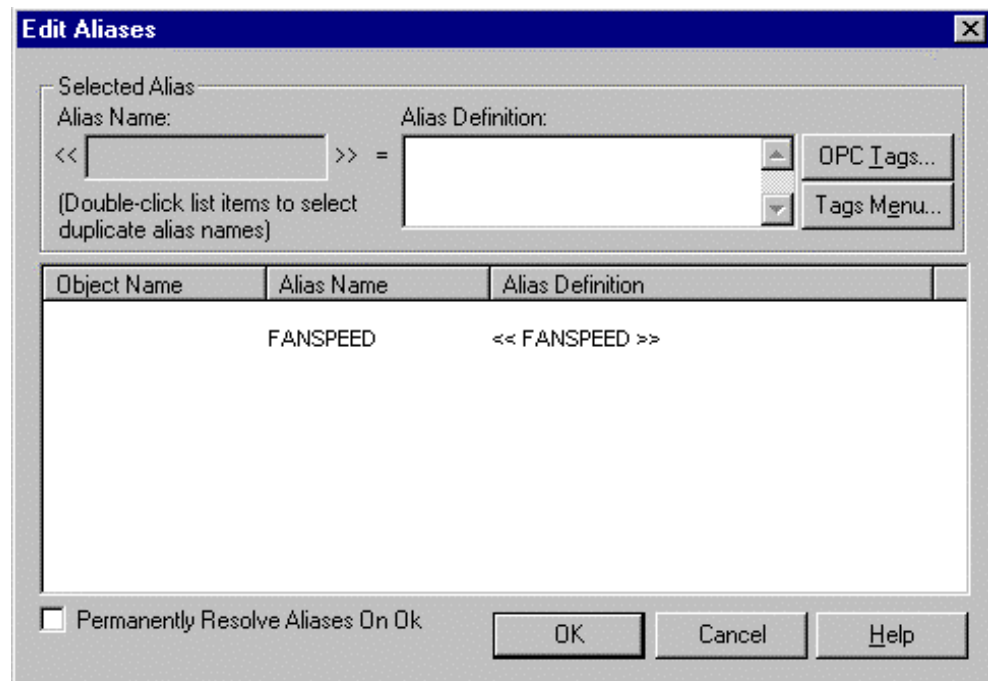

Figure 10-10: Edit Aliases Dialog Box
2. On the Dynamics menu, select Edit Aliases. The Edit Aliases dialog box appears (Figure 10-10).